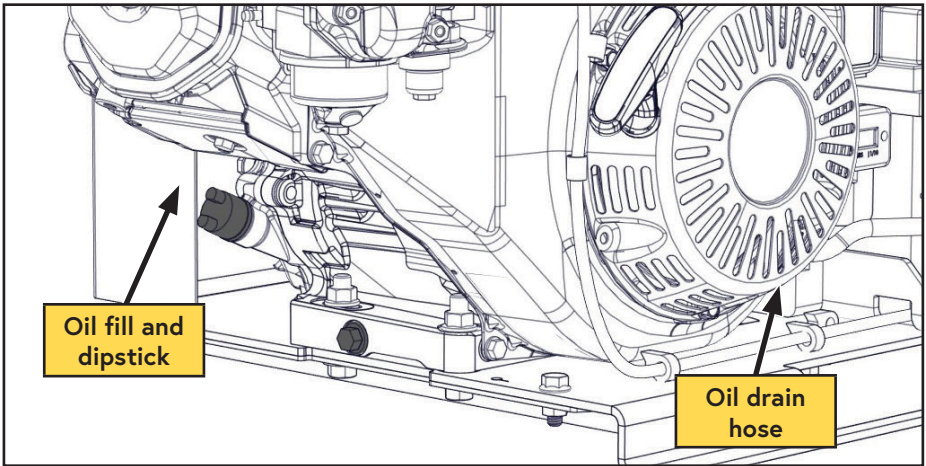

Figure 44 — Engine oil drain
- Locate the engine oil drain and clean the area around the drain plug and dipstick to prevent contamination (Figure 44).